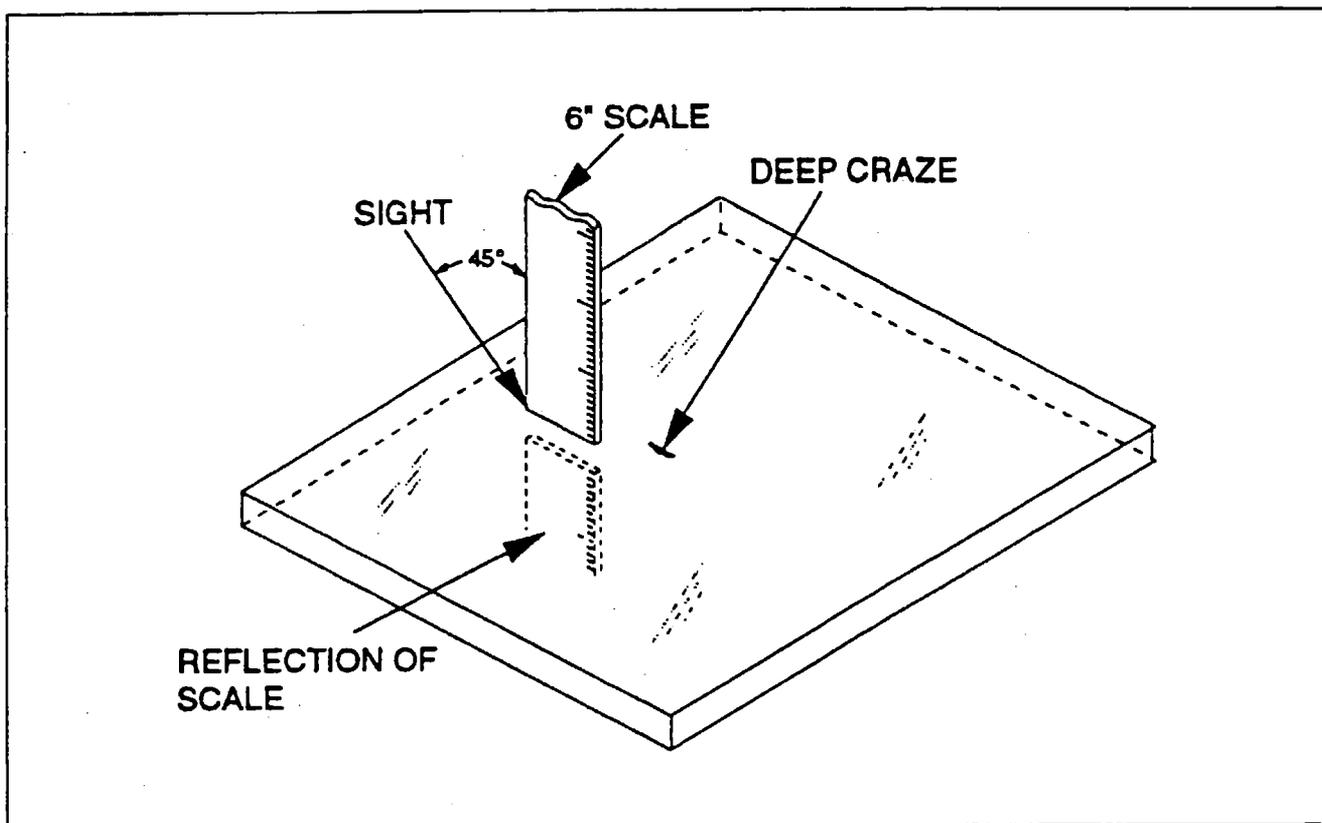

Figure 14-APP-1. Determining Depth of Craze.
- (1) Cracks could occur in either the inner, outer, or both panes. Cracking in either pane is critical and cause for immediate replacement.
- (2) **Crazing.**
- (b) Determine depth of craze using a calibrated depth gauge or scale (see Figure 14-APP-1).
- (3) **Blemishes.**
- (4) Haze or foggy appearance on the glass is not acceptable if the amount of haze/fog causes an obstruction of vision in the area used for operation of the aircraft.
- (5) **Scratches.**
- (3) Crazing.